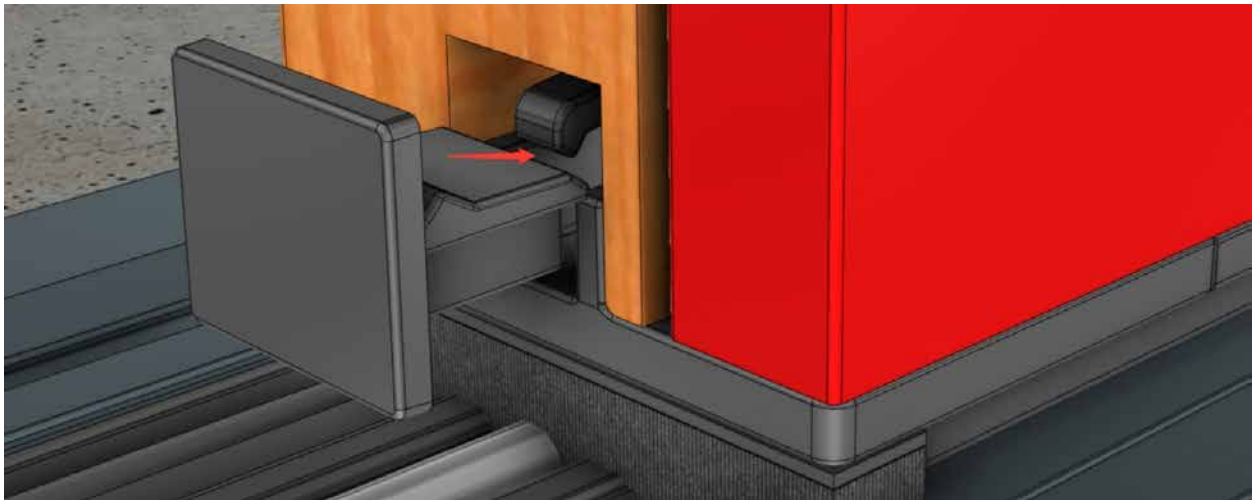

Fig A5
- Replace the black covers into the adjustment channel on all panels. Make sure to insert it under the visible tongue in the channel (Fig. A5).